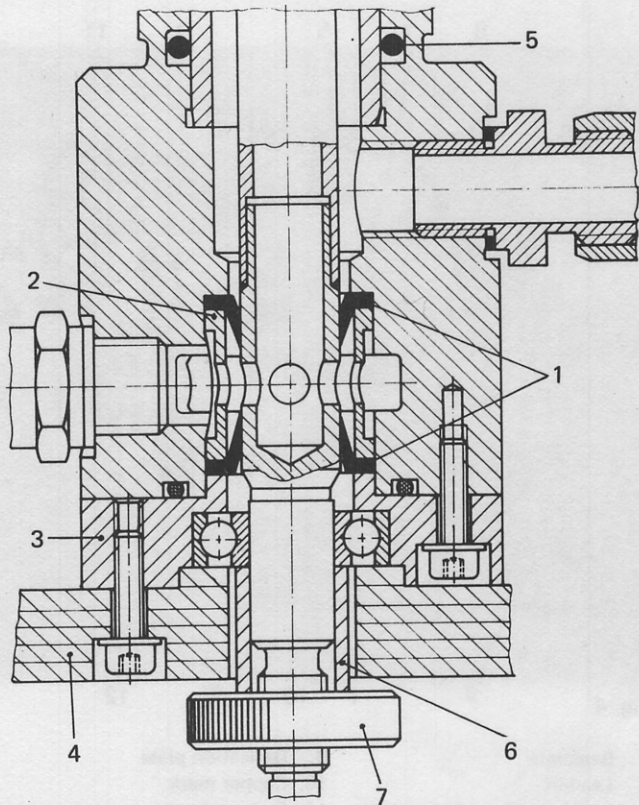

Fig. 9
- b. Fit the gland seal (14/24 x 7 mm) with the seal lip facing downwards (Drawing!) Fig. 9, item 1)
- d. Fit the gland seal (14/24 x 7 mm) with the seal lip facing upwards (Fig. 9, item 1)